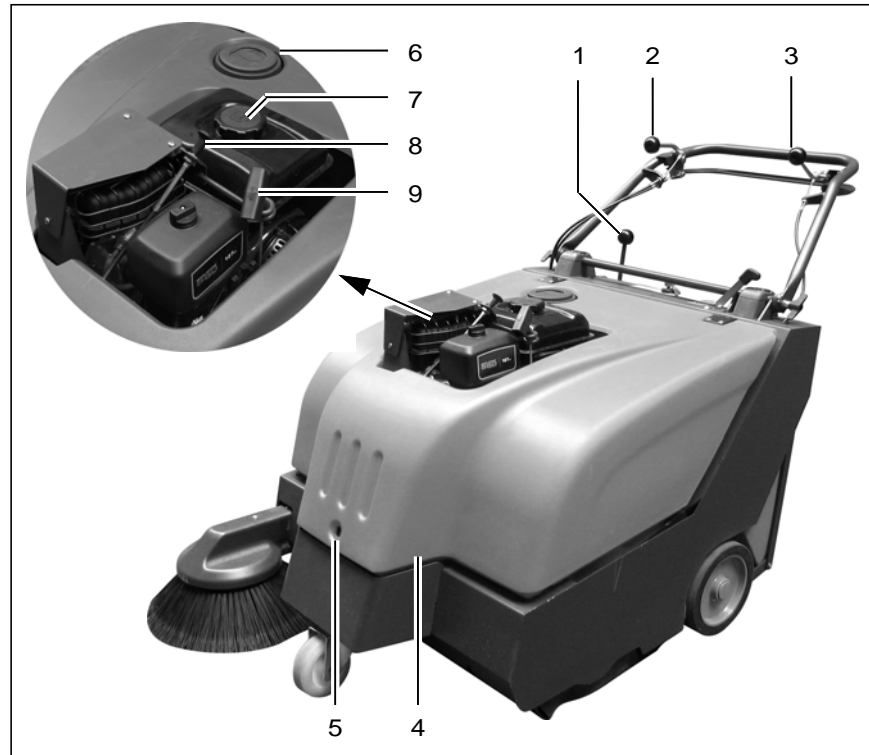

Fig. 7
Unscrew the fuel tank cap (Fig. 7/7) and fill approx. 2.5 l gasoline. Screw the fuel tank cap back on.
### Side brush lever (Fig. 7/1)
### Parking brake lever (Fig. 7/2)
### Folding apron lever (Fig. 7/3)
### Hood with lock (Fig. 7/4)
The hood should only be opened for maintenance and repair work. In this case, unlock the lock (Fig. 7/5) using a square wrench and pivot the hood up.
### Bypass flap (Fig. 7/6)
### Fuel tank cap (Fig. 7/7)
### Choke (Fig. 7/8)
### Recoil starter (Fig. 7/9)
2. Pull out the choke (Fig. 7/8) in the case of a cold start.
3. Pull the recoil starter cord (Fig. 7/9) until the starter clutch perceptibly engages (slight resistance) and then pull the starter cord (Fig. 7/9) hard and fast to start the engine.
4. Release the starter cord (Fig. 7/9) and let it recoil back into the housing.
5. Then push the choke (Fig. 7/8) back in, slowly.